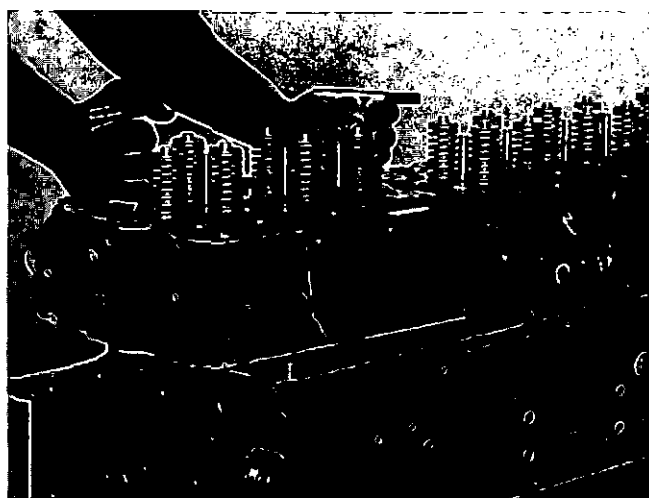

Fig. 0-42. Remove The Cylinder Heads.
2. Lift each cylinder head from the cylinder block, Fig. 0-42. Put a mark on each cylinder head as it is removed to identify its location on the engine.